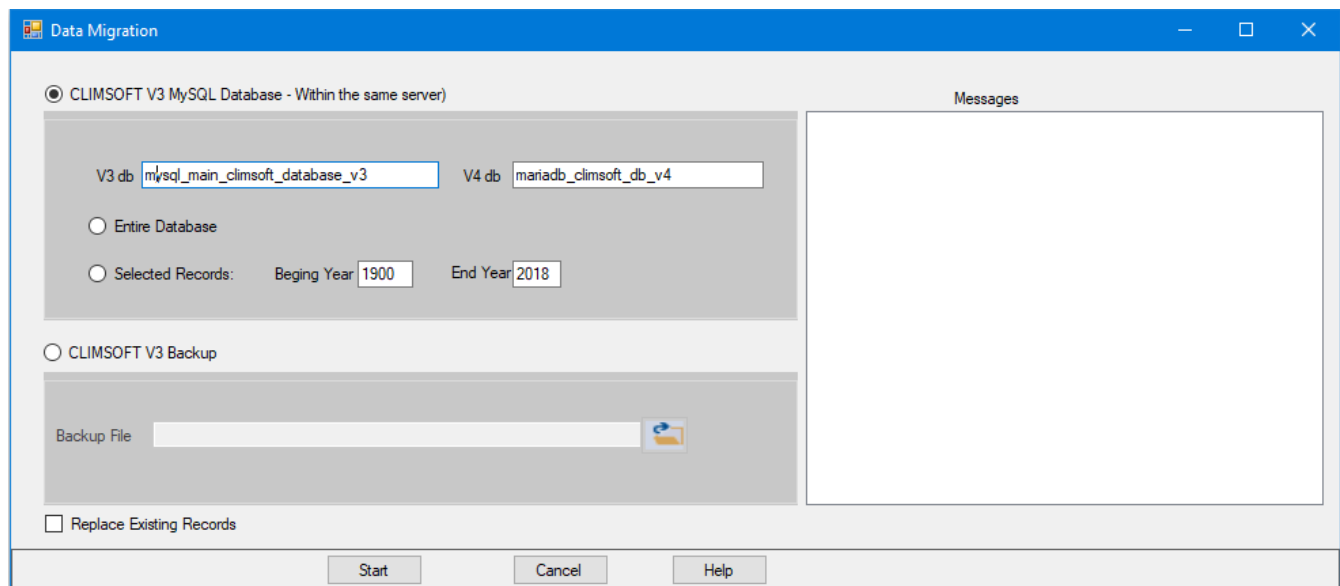

Figure 50: Data migration dialog
From the Welcome dialog click on the icon “**Data Transfer**” then “**External Data**” and “**Data Migration**” to obtain the dialog in Figure 50.
- Ensure the database names for both V3 and V4 are correctly typed (See Figure 50 above);
- (i) Select the option “**Climsoft V3 Backup**” (see *Figure 50* above),